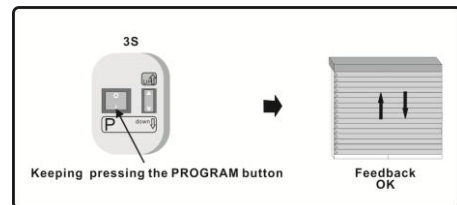

Fig.6
1.3 Initialize the motor by pressing the PROGRAM button 3s -> the motor joggle (one time in both direction). Refer to Fig.6